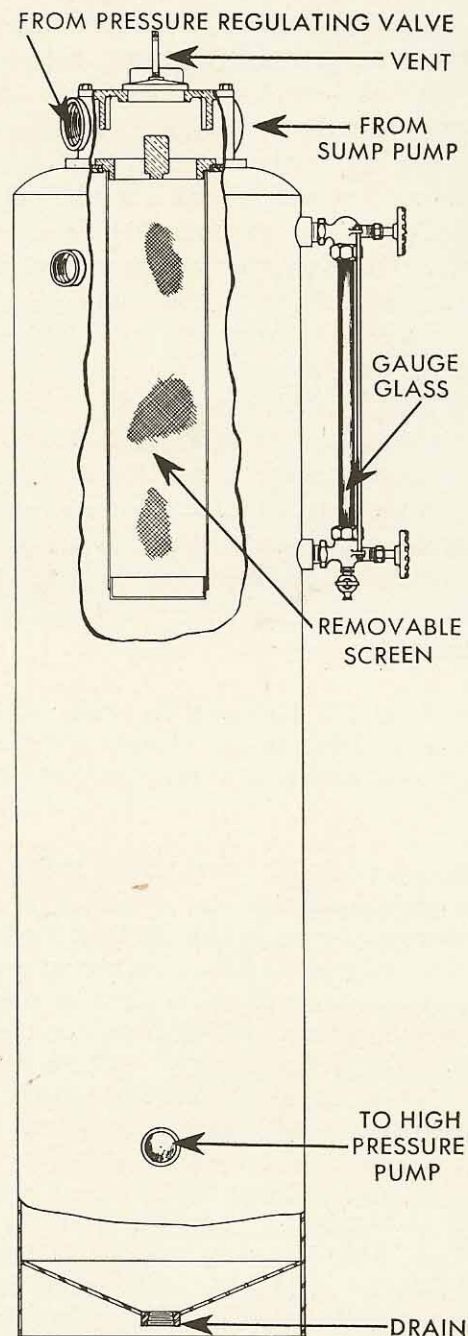

FIGURE 2-1
4. LUBRICATING SERVICE TANK: This tank, shown in Figure 2-1, is usually called the lube service tank for short, and furnishes storage capacity for the oil of the pressure system.